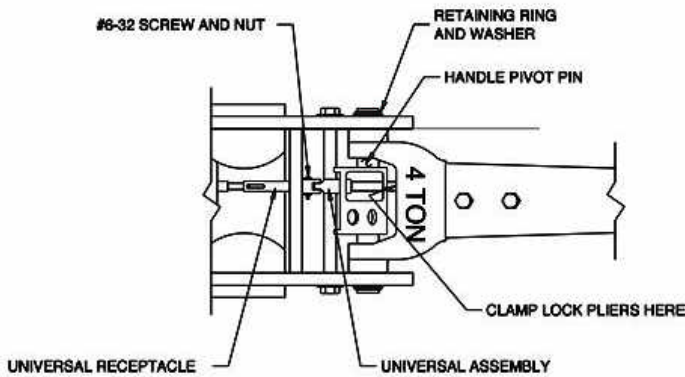

Figure 1 - YA657B / YA667B
2. For YA657B and YA667B, see figure 1 to remove the retaining ring and the handle pivot pin from the jack base that connects through the handle